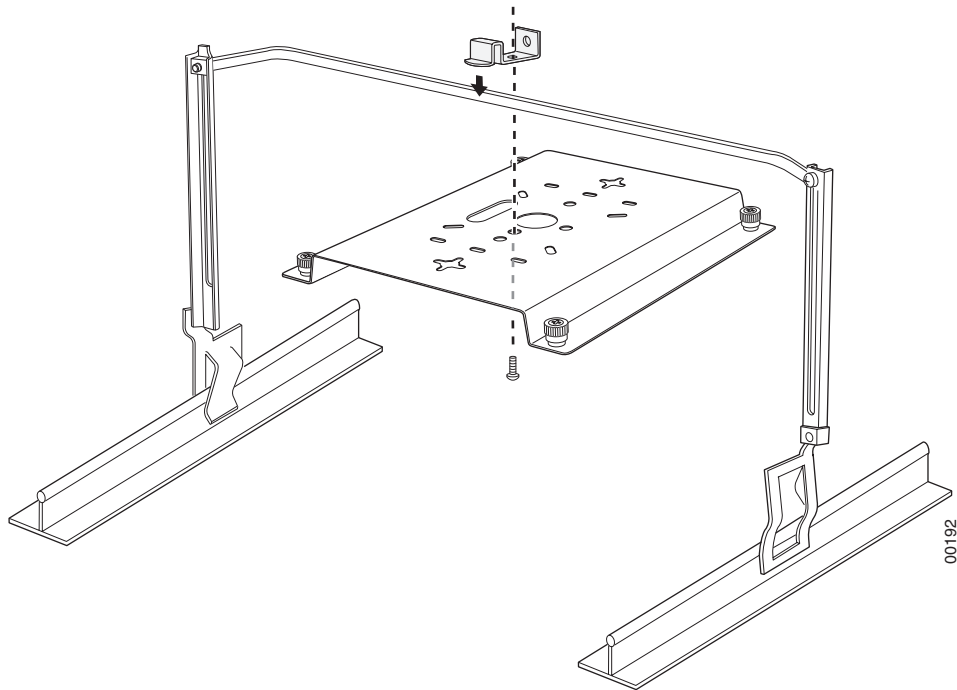

Figure 13: Attaching the Mounting Bracket to the Box Hanger
4. Attach the U-joint of the clip to the T-bar and snap in place (see Figure 13).
5. Pass the long end clip through the large center hole to the underside of the the mounting bracket clip and then attach the bracket to the clip using the supplied screw (see Figure 13 for orientation).
7. Adjust the height of the box hanger using the height adjusting screws (see Figure 13).